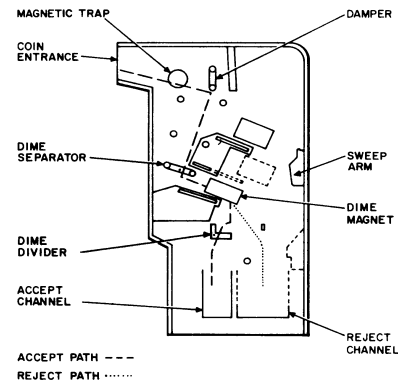

Fig. 3—Dime Path in a Typical Coin Chute
**2.03 Dime Operation—Valid Coin Accepted (Fig. 3).**
**2.04 Dime Operation—Coin Rejected (Fig. 3).**
- (1) Quarter is deposited in coin entrance and passes magnetic trap.
- (2) Quarter continues and is checked for size and weight as the quarter separator rotates.
- (3) Quarter is channeled into the quarter magnet area.
- (4) The quarter magnet sets up an eddy current effect which slows its movement down the chute.
- (5) Quarter strikes the right side (as viewed in Fig. 3) of quarter divider and is accepted.